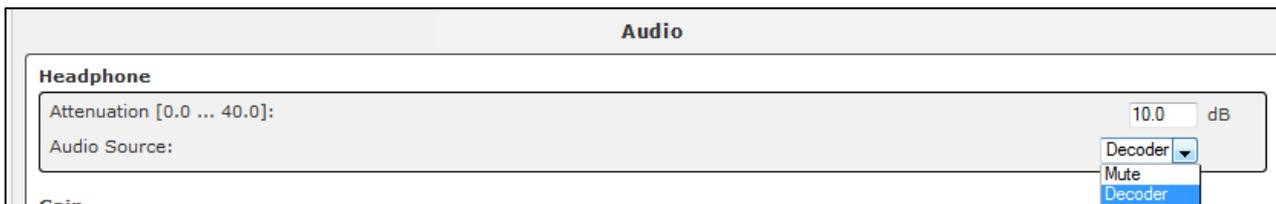

Figure 55: Headphone settings
8. To monitor the current outputting audio signal over headphone, open the field **Headphone** under **Interface Settings→Audio** and select “Decoder” in the dropdown menu “Audio Source” (see Figure 55):
If you operate the device as a decoder you can monitor the outgoing audio signal over headphone or set it mute. For more information about the headphone settings for decoder see section 14.9 and Figure 55